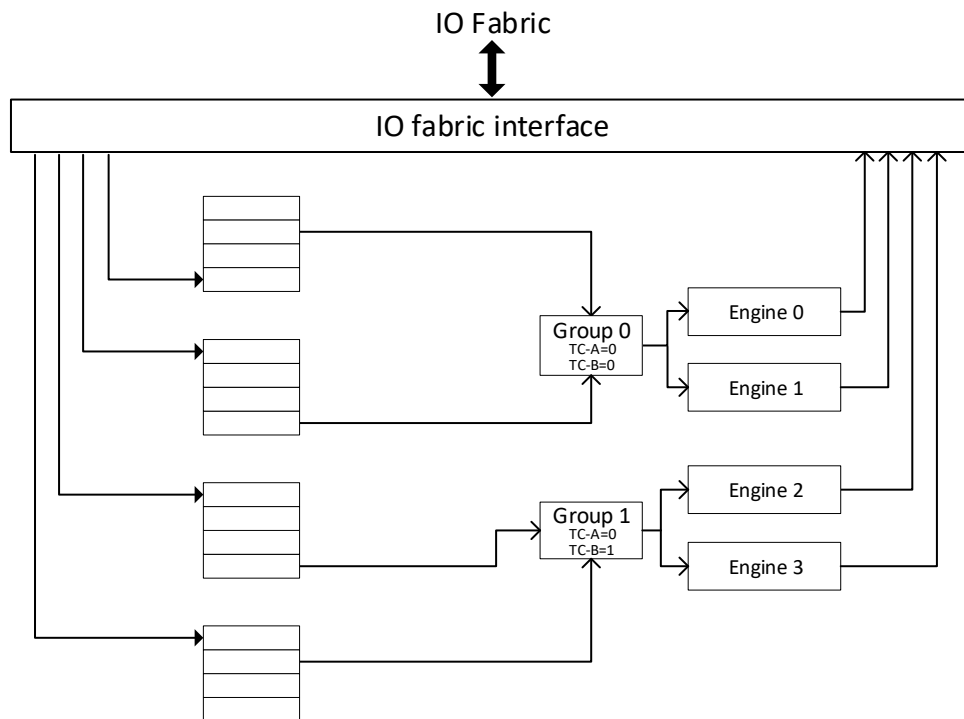

Figure 3-2: Sample Group Configuration 1
Although the Intel DSA architecture allows great flexibility in configuring work queues, groups, and engines, the hardware is designed with the intent to be used in specific configurations. Example configurations are shown in Figures 3-2 and 3-3. In the configuration shown in Figure 3-2, hardware uses either engine in a
Figure 3-2 shows example Traffic Class (TC) values for the two groups. In Group 0 both TC values are 0, while in Group 1, TC-B is 1. This example configuration might be used when Group 0 is used solely for operations that access DRAM, and Group 1 is used for operations that access both DRAM and persistent memory. The TC Selector flags in descriptors submitted to Group 1 indicate whether each address in the descriptor refers to DRAM or persistent memory. See chapter 4 for information on Traffic Classes and how they can be used to control QoS.
Figure 3-2 shows two work queues in each group, but there may be any number up to the maximum number of WQs supported. The WQs in a group may be shared WQs with different priorities, or one shared WQ and the others dedicated WQs, or multiple dedicated WQs with the same or different priorities.